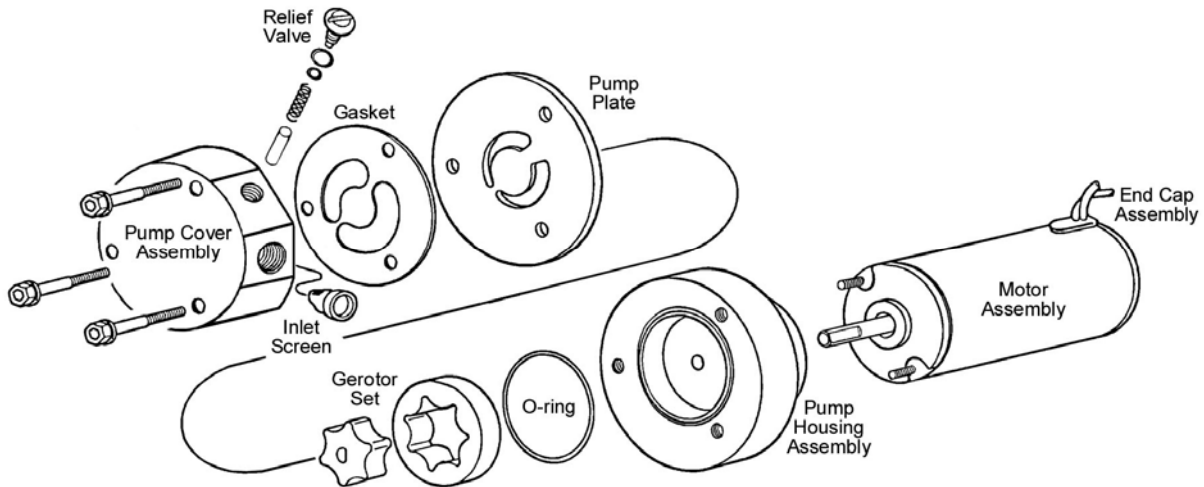

Figure 4
3. If this doesn't solve the problem, turn the pump on and listen for a hum from the top of the pump. If there is no hum, the pump electrical system should be checked by a competent repairman. If the pump hums, it probably only needs to be cleaned. See Figure 4.